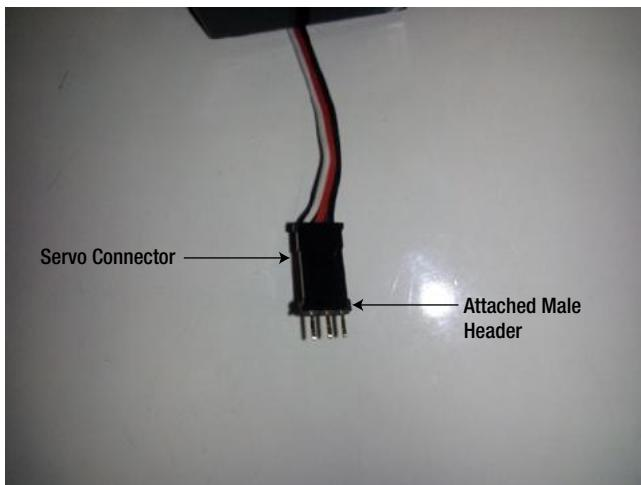

Figure 23-5. Attach the male stackable header to the servo connector
4. Next, attach the 3-pin male stackable header to the servo. Simply push it on to the end of the wire connector coming out of the servo motor. Figure 23-5 illustrates this process.